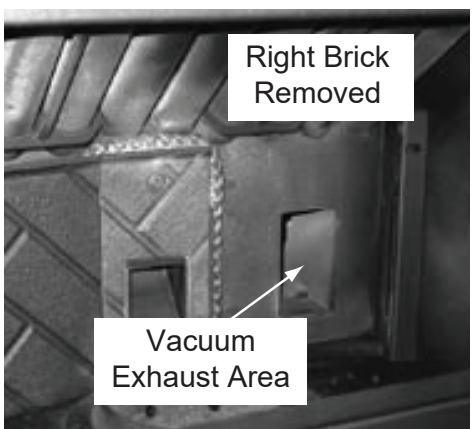

Figure 29.3
6. The baffle does not completely cover the top of the firebox. There is an opening as shown in **Figure 29.3**.